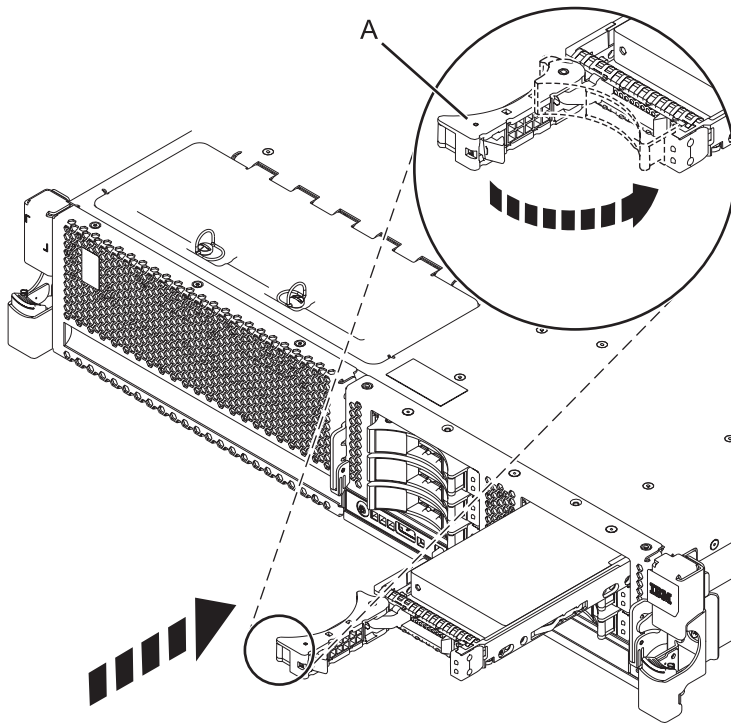

Figure 53. Installing a disk drive in the system
4. Slide the disk drive or solid-state drive all the way into the system or an expansion unit, and push the disk drive or solid-state drive handle (A) in until it locks. See Figure 53.